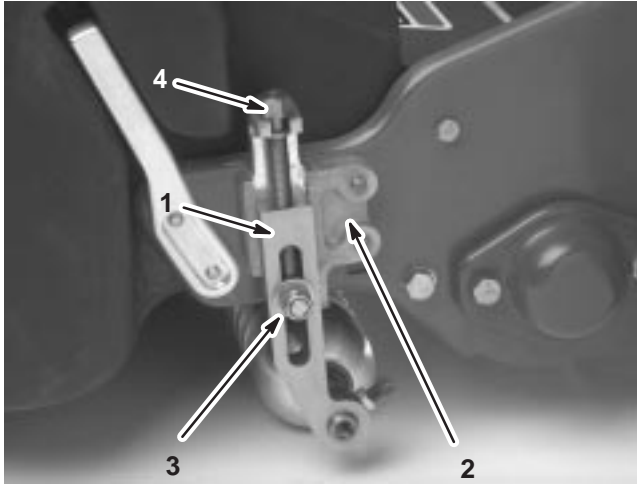

Figure 14
2. Loosen the locknuts securing the height-of-cut arms to the height-of-cut brackets (Fig. 14).